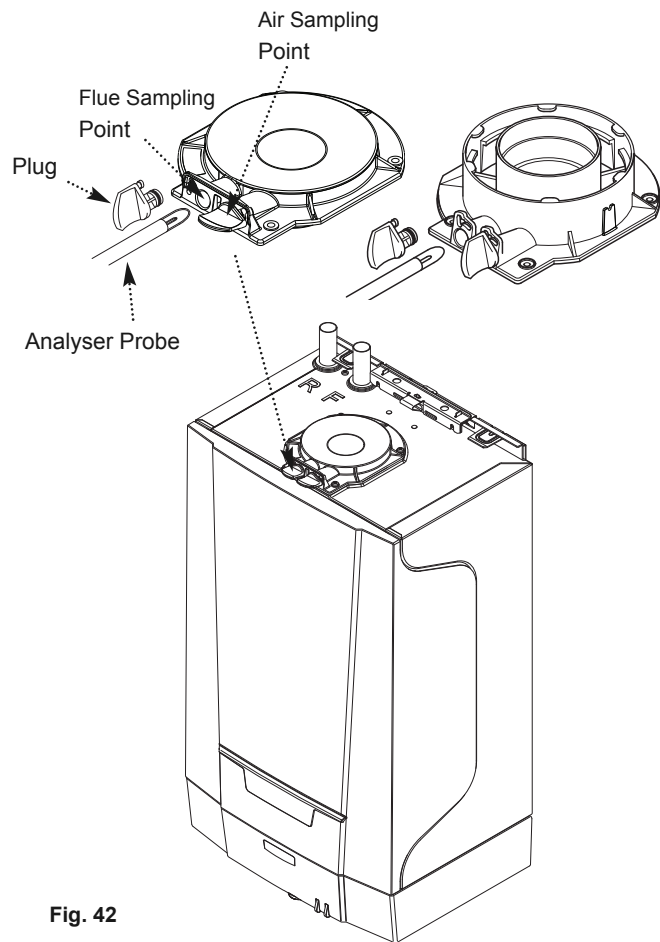

Fig. 42
5. Remove the plug from the flue sampling point (Fig. 42), insert the analyser probe and obtain the CO/CO₂ ratio. **This must be less than 0.004.** If the combustion reading (CO/CO₂ ratio) is greater than this, and the integrity of the complete flue system and combustion circuit seals has been verified, and the inlet gas pressure and gas rate are satisfactory either:-